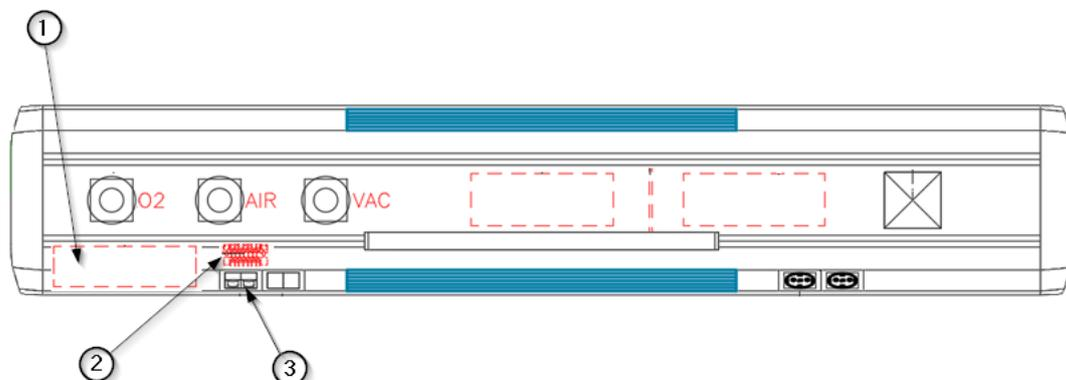

Fig.9 Detail of the electrical connection points at N270
The electrical, voice and data circuits enter the equipment through a window ① whose dimension and location are detailed in the installation plan of the equipment. The electrical circuits terminate in a common terminal block ②, except for voice, data, whose connection is direct to the corresponding mechanism ③. See figure 9.